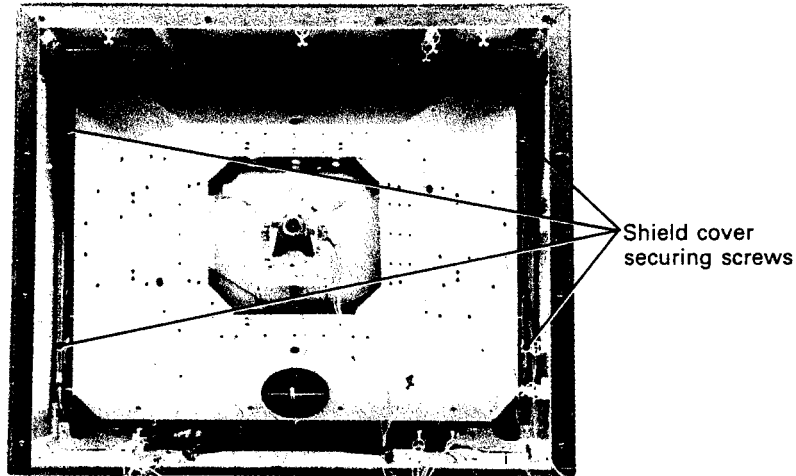

Fig. 15-3
7. Remove the 4 (7 mm) Hex nuts securing the SHIELD-COVER and remove the SHIELD-COVER from the cabinet. (Fig. 15-3)